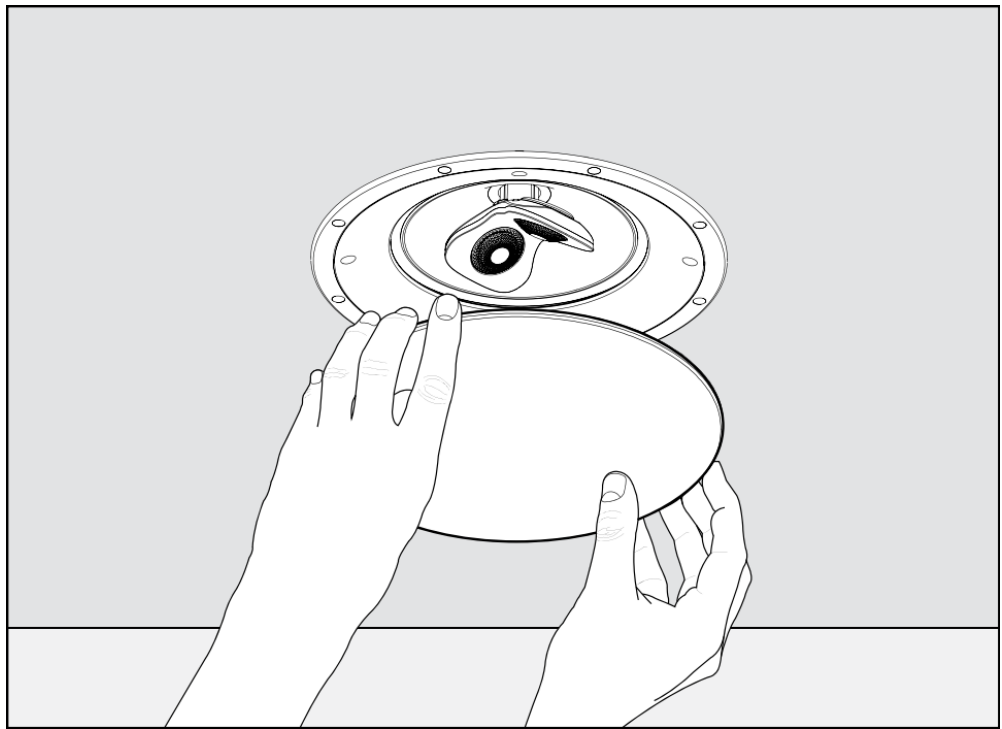

Fig. 3e
- 1) Gently press the grille onto the front face of the speaker (Fig. 3e or 4f). The magnets will ensure correct attachment.